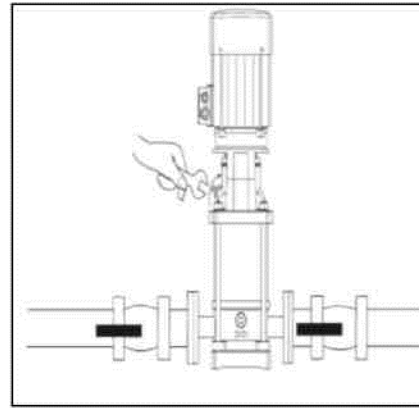

Figure 7
- 11- When a steady flow of fluid occurs, bleed the system and re-tighten. Fully open the discharge valve (See Figure 7).